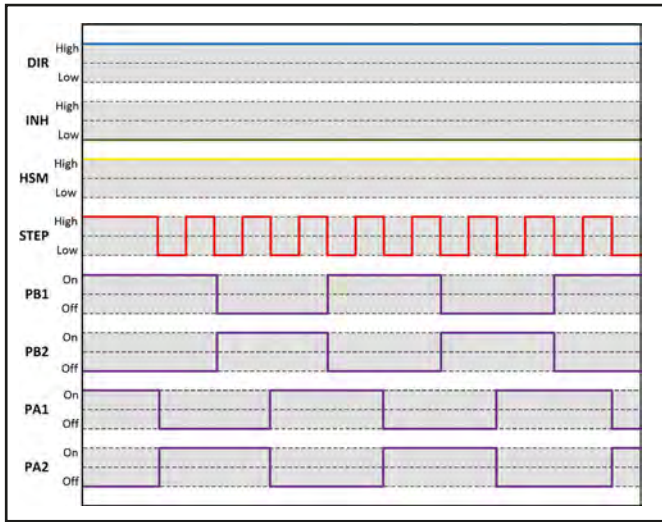
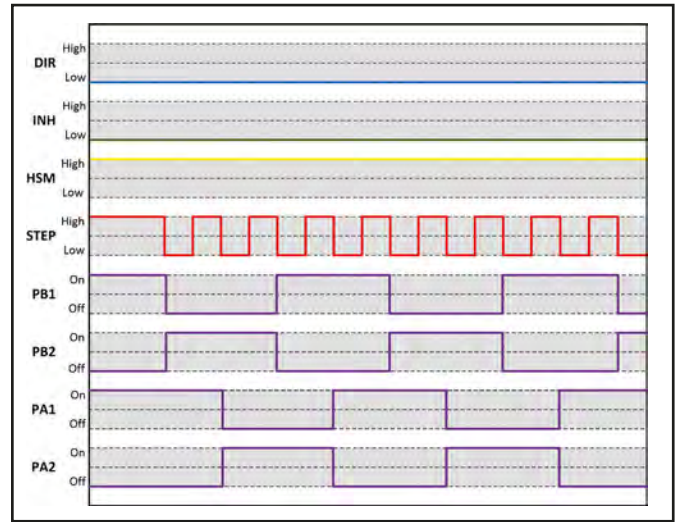

Fig.8.12. Output sequence for clockwise (CW) operation in full-step mode
Fig.8.13. Output sequence for anti-clockwise (ACW) operation in full-step mode
The output sequences produced by the NJM2671 for clockwise (CW) and anticlockwise (ACW) operation are respectively shown in Fig.8.12 and Fig.8.13.